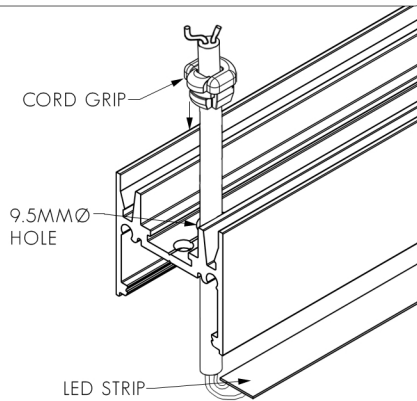

FIG. 2 - MAKE ELECTRICAL CONNECTION
4. MAKE ELECTRICAL CONNECTION: CONNECT LED STRIP TAILS TO LED DRIVER (SEE FIG. 2 ON NEXT PAGE IF SUPPLIED WITH MALE/FEMALE CONNECTORS).